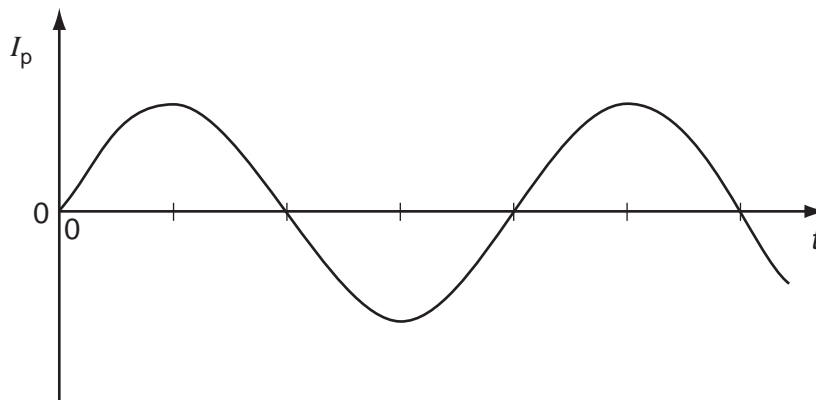

Fig. 6.2
- (b) Fig. 6.2 shows the variation with time t of the current I_p in the primary coil. There is no current in the secondary coil.